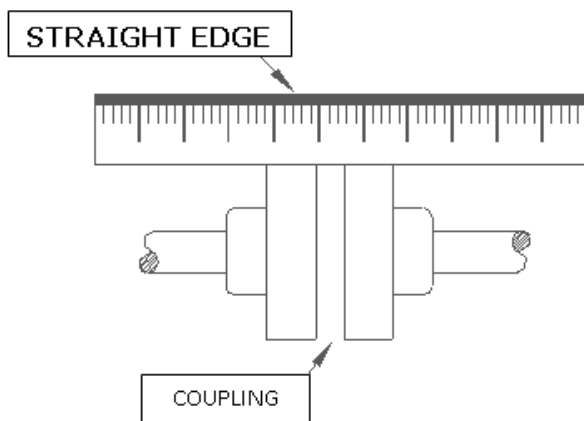

Figure 1
- Loosen both setscrews over the outer and inner end caps. See both figures 1 and 3.
- Using a spanner wrench, turn inner end cap (8) clockwise, viewed from the motor end, until it projects from bracket (16), exposing approximately three threads.
- Turn the outer end cap (3) clockwise, by hand, until rotor is tight against the pump head (26) and rotor/shaft (21) cannot be turned.
- Make a reference mark on the bracket end, opposite a notch on the outer end cap (3). Back off outer end cap (3) counterclockwise nine notches. Each notch represents 0.001 inch (0.0254mm) end clearance.